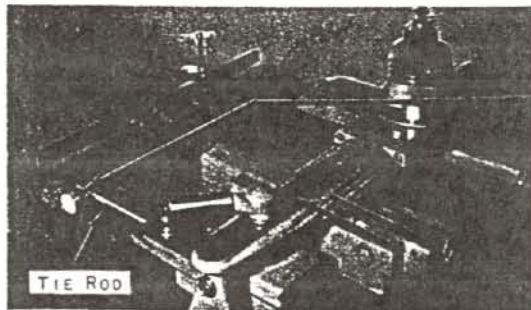

Fig. 17
- b. The small diameter Bearing End must be parallel to both top and side of Lathe Bed. Check with indicator as shown (Fig. 17 and 18) while moving carriage back and forth with hand wheel.